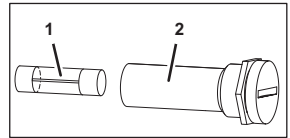

Figure 143
2. Remove the fuse (Figure 143/1) from the fuse holder (Figure 143/2).
3. Position the new fuse (Figure 143/1) within the fuse holder (Figure 143/2).